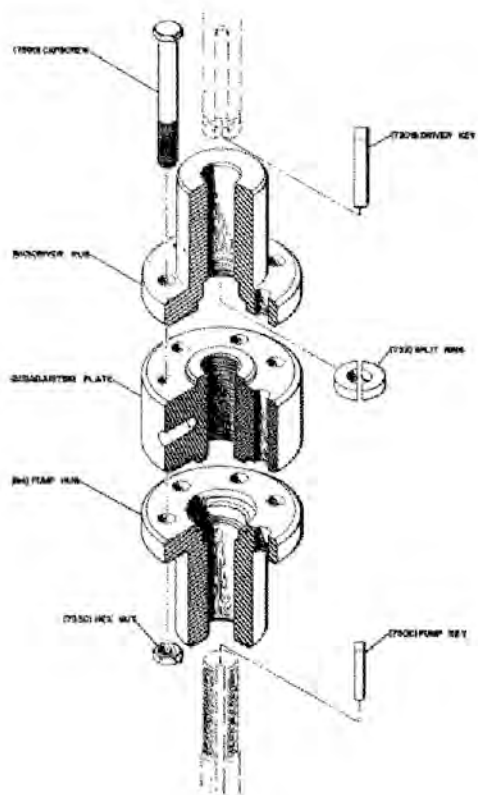
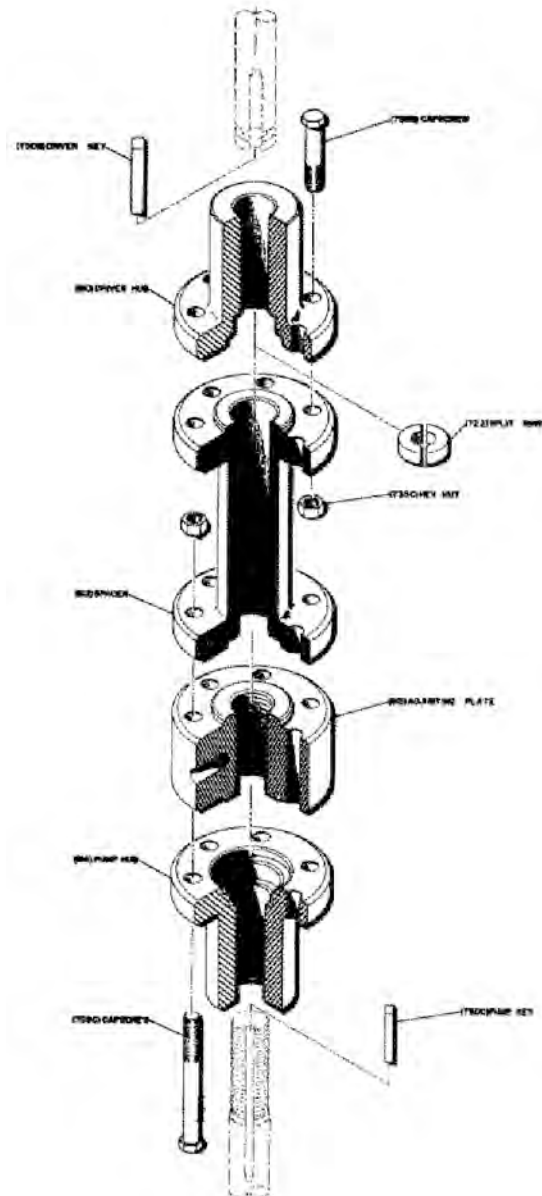

Figure 13: Flanged adjustable coupling
Figure 14: Flanged adjustable coupling with spacer
(See Figure 13: Flanged adjustable coupling on page 33 or Figure 14: Flanged adjustable coupling with spacer on page 33.) Adjustment is accomplished by turning adjusting plate (613).
- b) 2. With the impellers at the bottom turn adjusting plate (613) towards driver hub (610) or spacer (612). Obtain 0.015 inch clearance between adjusting plate and driver hub or spacer for the first 10 feet of column. Add 0.010 for each additional 10 feet of column.
4. After impeller adjustment (open or enclosed), align adjusting plate (613) holes with pump hub (614) holes, insert capscrews (759D) or (759C) and draw pump hub to mate with driver hub. Tighten capscrews gradually and uniformly.
1. The coupling between the driveshaft and pumpshaft may be a non-spacer, see Figure 13: Flanged adjustable coupling on page 33, or a spacer type, see Figure 14: Flanged adjustable coupling with spacer on page 33.
(See Figure 13: Flanged adjustable coupling on page 33 or Figure 14: Flanged adjustable coupling with spacer on page 33. Adjustment is accomplished by turning adjusting plate (613).